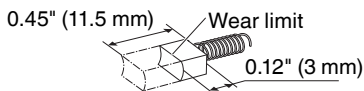

Fig. 41
5. Inspecting the carbon brushes (Fig. 41)